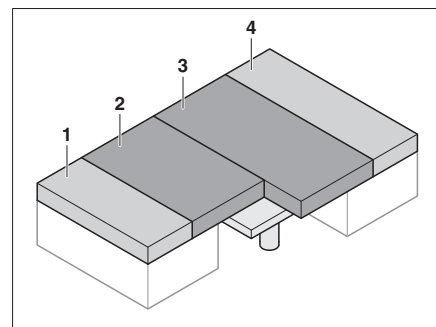

Fig. 73 After conversion
- Pull the seat cushions (Fig. 73,2 and 3) into the centre.
- Insert the back cushions (Fig. 73,1 and 4) between the seat cushions (Fig. 73,2 and 3) and the exterior wall.